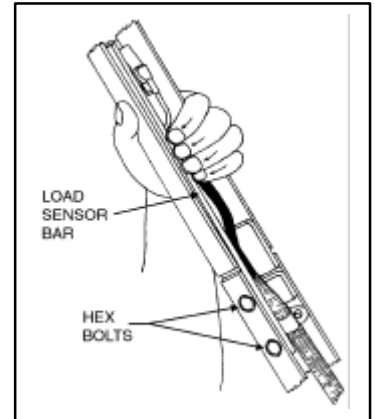

FIGURE 2-23: LOAD SENSOR ADJUSTMENT
- a. Refer to **Figure 2-23**. Place your left hand around knuckle vertical link assembly as shown; link is located on left side of lift.